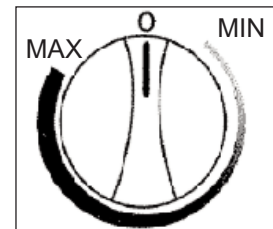

Fig. 2
2. Remove the left or right door strip cover (depending on which side you are moving the door to) and the left or right hinge cover, then remove the two (2) upper hinge screws and remove the upper hinge. Loosen the upper door spindle and remove the door assembly. See Figure 2.
- To turn off the wine cooler, (no cooling) rotate the control knob to the “0” (off) position. **See Fig. 2.** Turn the control to the “OFF” (0) position to temporarily disconnect the cooling cycle. When the wine cooler is not to be used for long periods of time, disconnect from power and leave the door partially open.